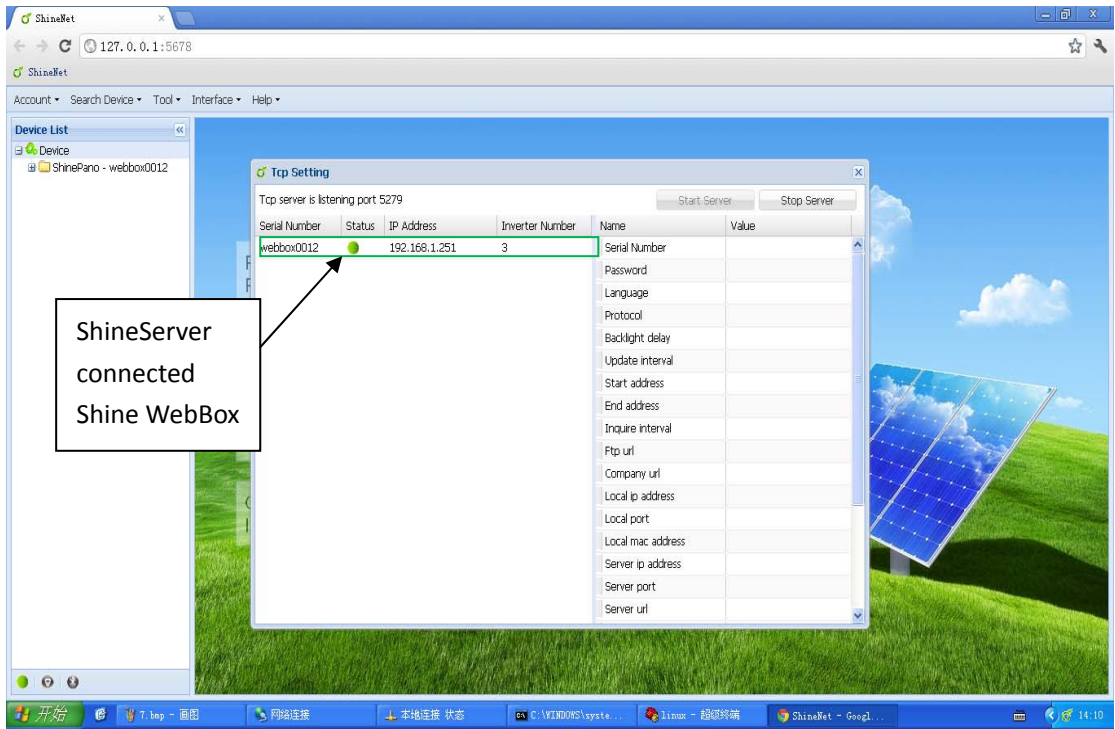

Figure 3-5-2
2. Single click “Start Server”, then click the list on the left side in Tcp Setting as figure 3-5-2.